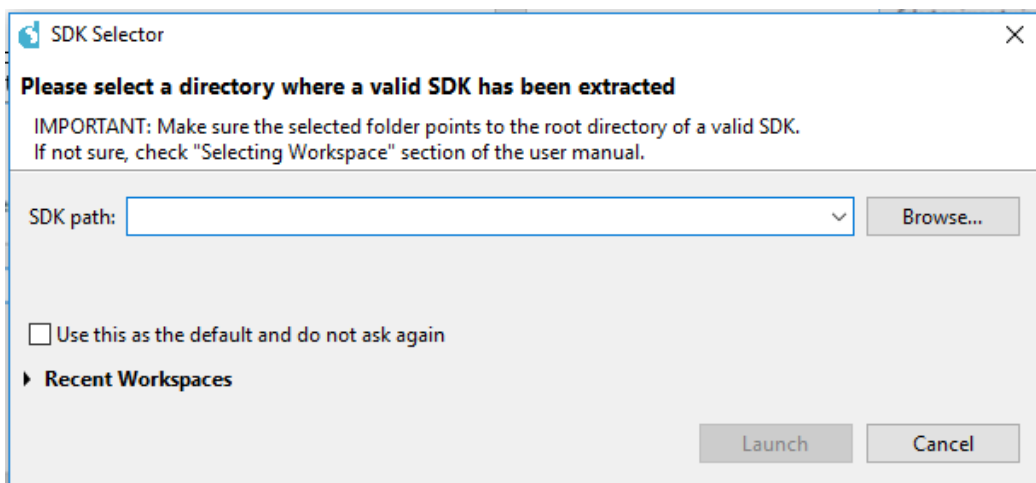

Figure 11: Select Workspace in Smartbeat™ AVD Studio
1. Once the Smartbeat™ AVD Studio is started up, provide the location of the AVD workspace (see Figure 11, the folder to be selected is called "Workspace_AVD").